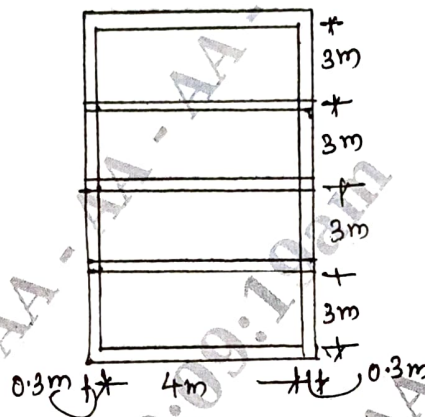

Fig. Q7
- 7 A roof of a hall measuring 8m×12m consists of 100mm thick R.C slab supported on steel I- beams spaced 3m apart as shown in Fig Q7. The finishing load may be taken as 1.5kN/m2 and Live load as 1.5 kN/m2. Design the steel beam.